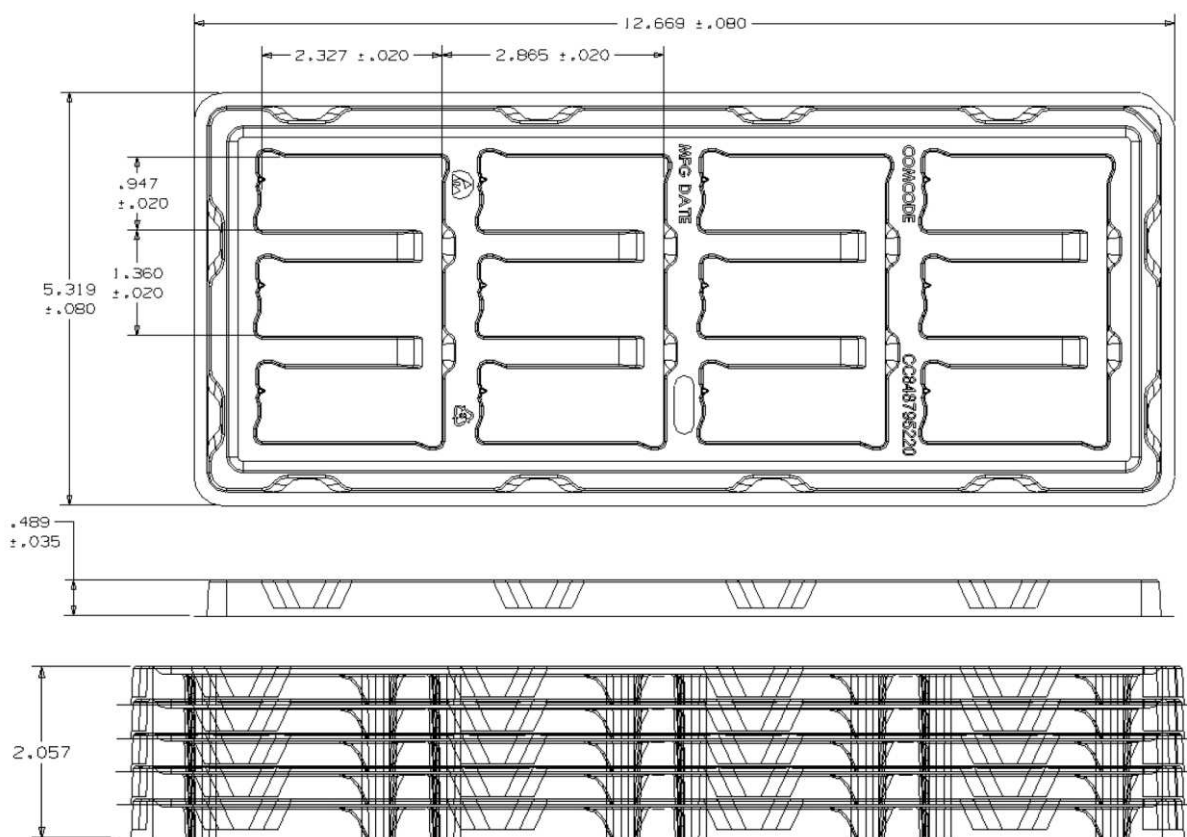

Figure 21. Surface Mount Packaging Tray.
The surface mount versions of the ESTW015A0F modules (suffix –S) are supplied as standard in the plastic tray shown in Figure 21. The tray has external dimensions of 135.1mm(W) x 321.8mm(L) x 12.42mm(H) or 5.319in(W) x 12.669in(L) x 0.489in(H).